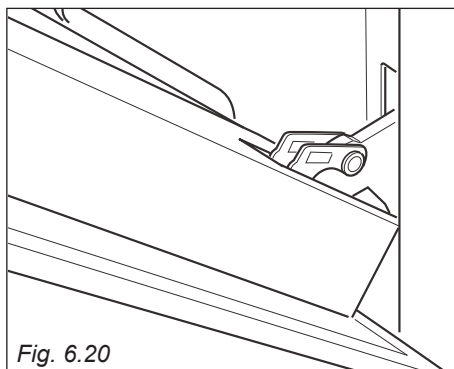

Fig. 6.20
1. Make sure the door is locked open (see fig. 6.20).